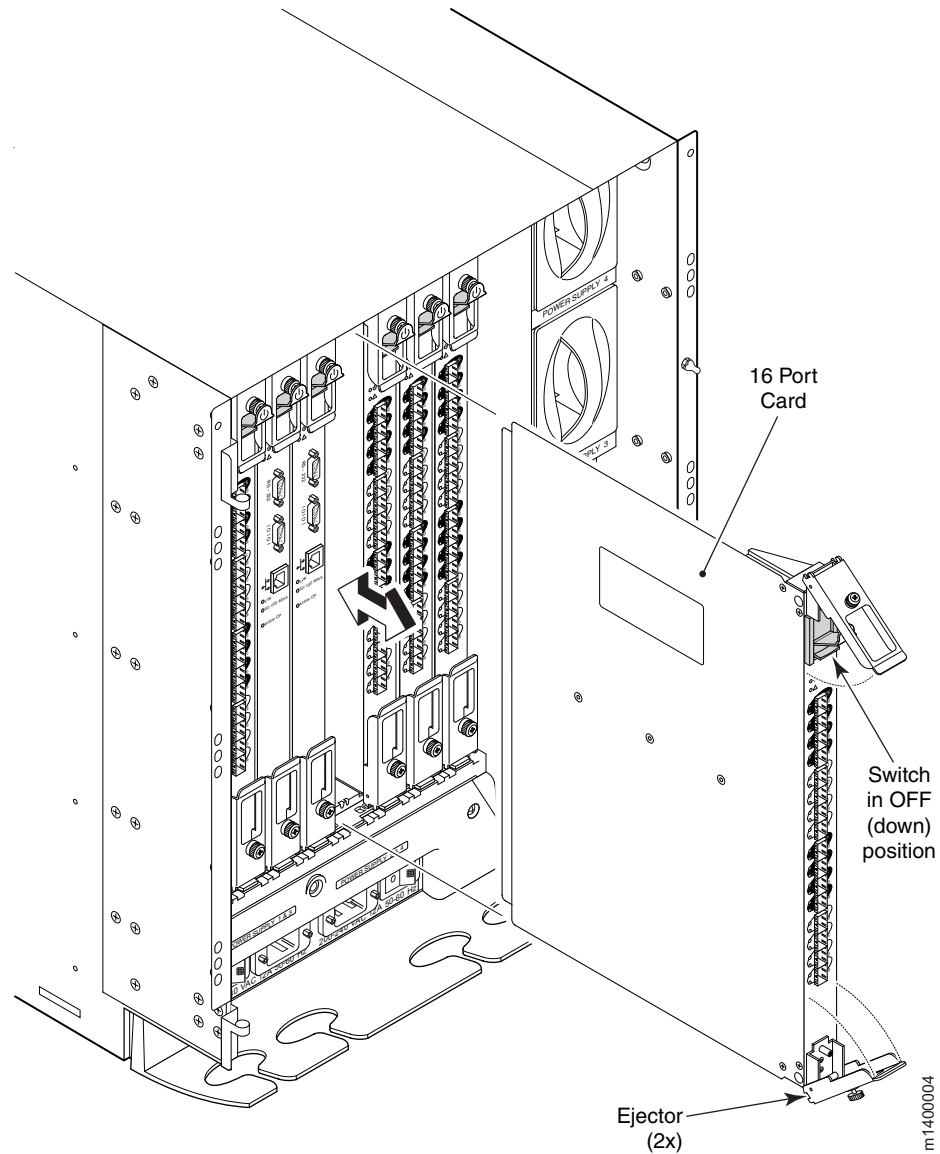
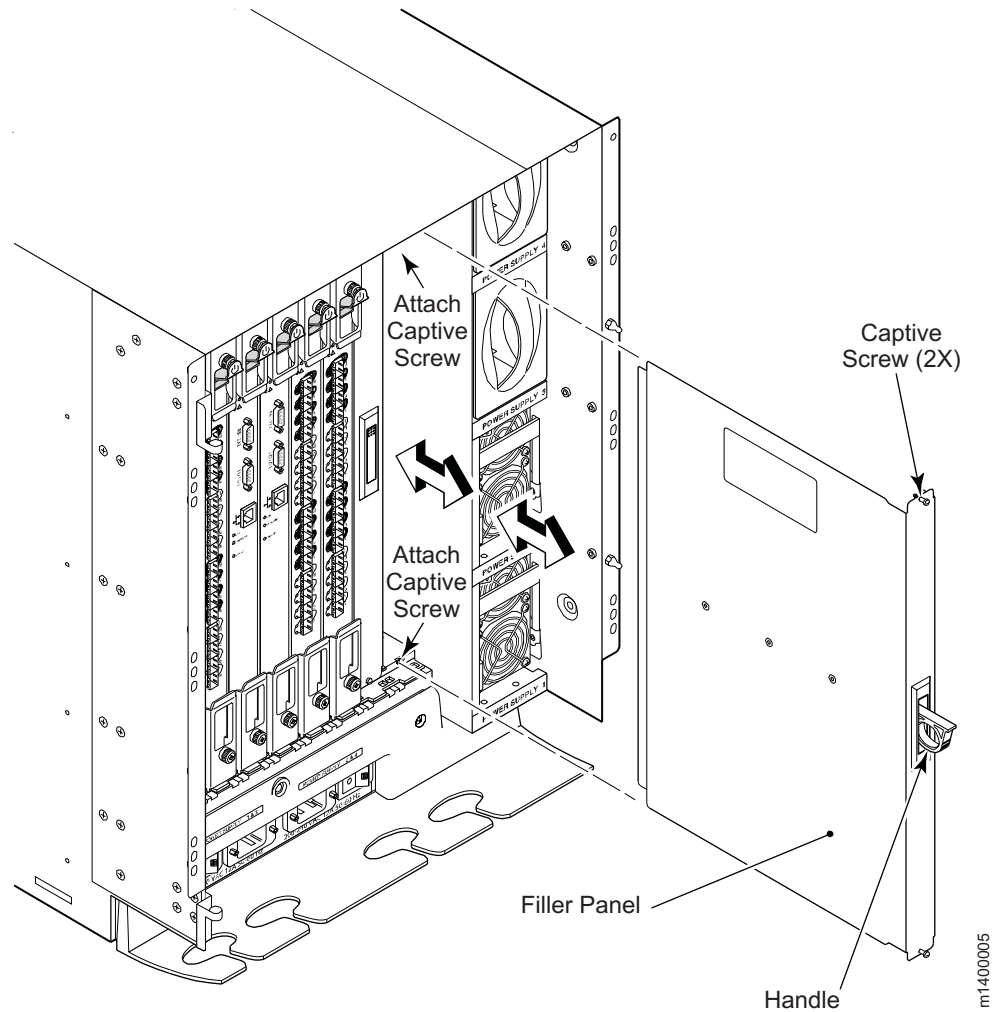

Figure 38. 16-port card removal and replacement
Figure 39. Removing and replacing a filler panel
Use this procedure to remove and replace 16-port cards (see Figure 38 on page 55) and 16-port card filler panels (see Figure 39 on page 57) from the M14. Perform the following steps before removing and replacing a 16-port card:
1. Remove the two captive screws. See Figure 39 on page 57.
Attention: Hold the 16–port card by the edges of the metal pan. Do not use the ejectors to hold or carry a 16–port card. (See Figure 38 on page 55)